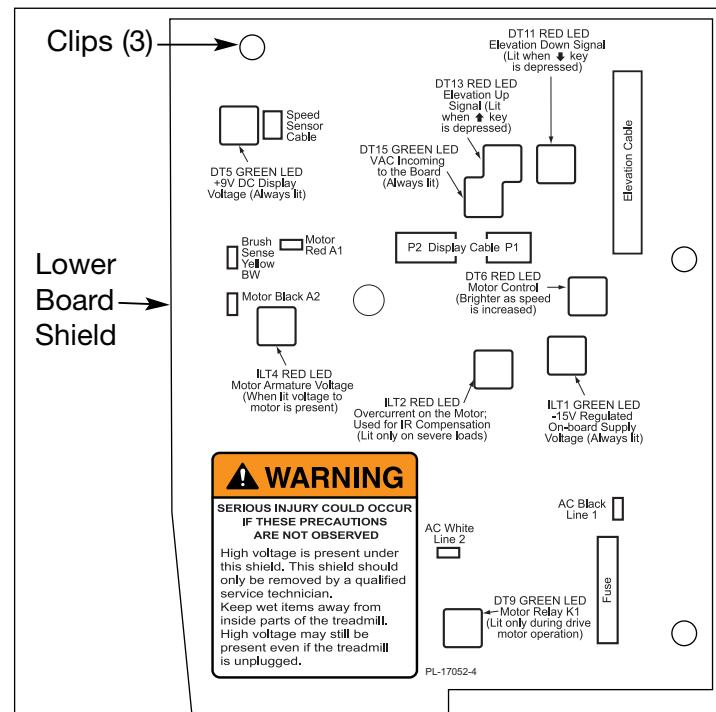

Figure 19
- E.** Refer to the lower board shield to confirm the locations for the connectors and check to see that all of the cables are connected firmly. See Figure 19.
- F.** Place the lower board shield in position and push the clips down. **NOTE:** The clips will snap in. See Figure 19.